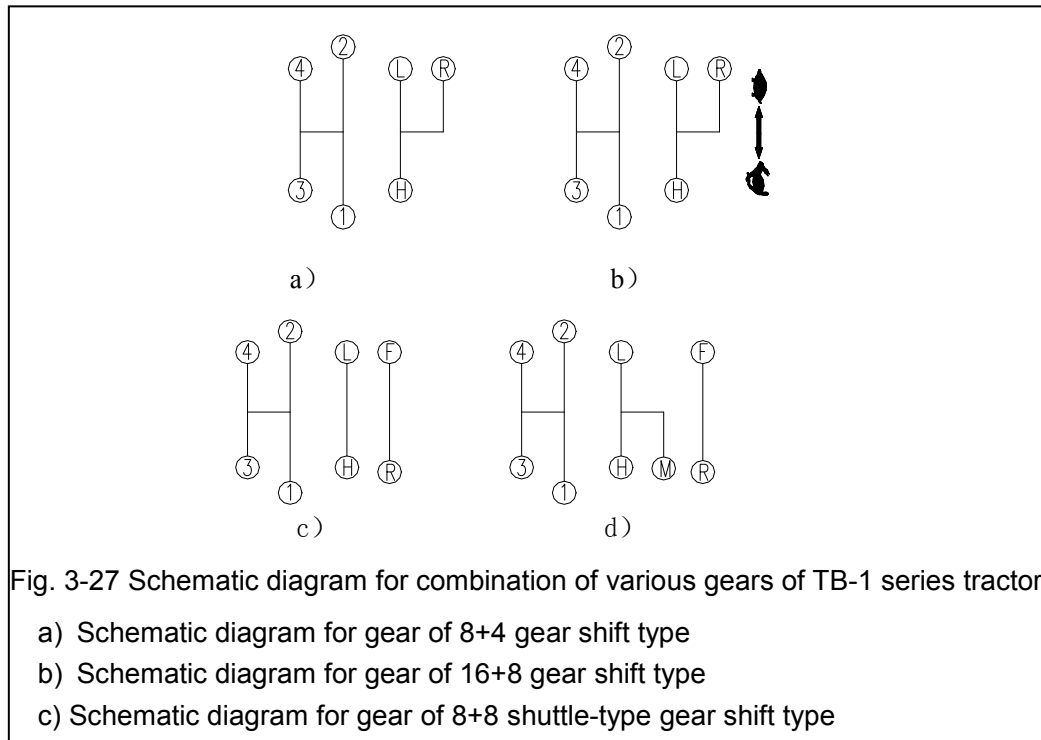

Fig. 3-27 Schematic diagram for combination of various gears of TB-1 series tractor
- 8+4 gears (namely a) shown in Fig.3-27)
- 16+8 creeper gears (namely b) shown in Fig.3-27)
- 8+8 shuttle-type gear shift (namely c) shown in Fig.3-27)
- 12+12 shuttle-type gear shift (namely d) shown in Fig.3-27)